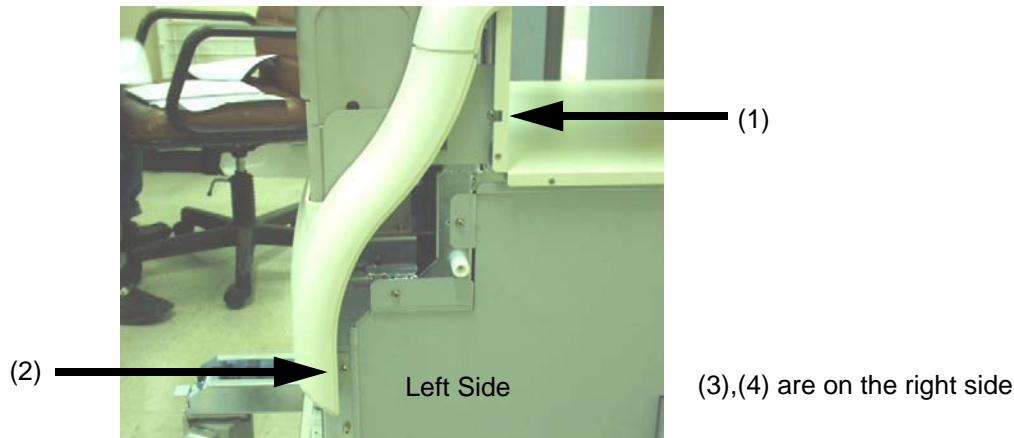

Figure 8-51 Unscrew 2 screws on the left side
- Unscrew four screws (1-4). Refer to Figure 8-51.